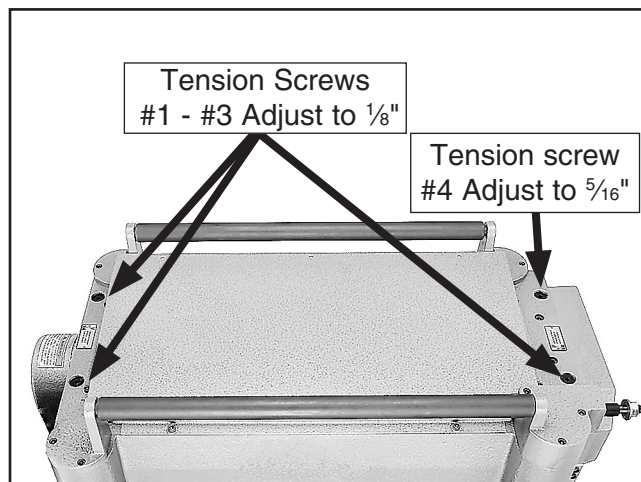

Figure 33. Tension screw locations and adjustments.
1. Locate the four adjustment screws located on the top of the planer, as shown **Figure 33**.